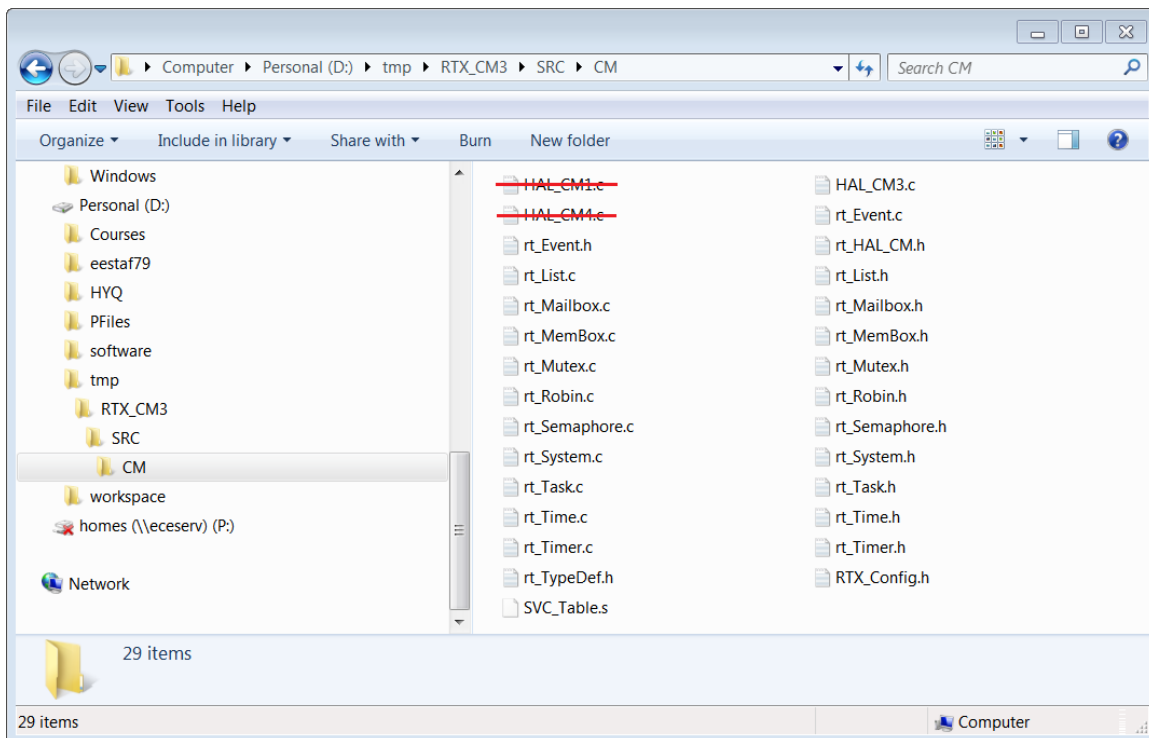

Figure 2.16: RTX Library Source Files for Cortex-M3
3. Start working on your own copy of the RTX library from now on. Remove `HAL_CM1.c` and `HAL_CM4.c` files that are under `RTX_CM3\SRC\CM` directory (see figure 2.16). These two files are for Cortex-M1 and Cortex-M4 processors which is not the hardware in the lab.